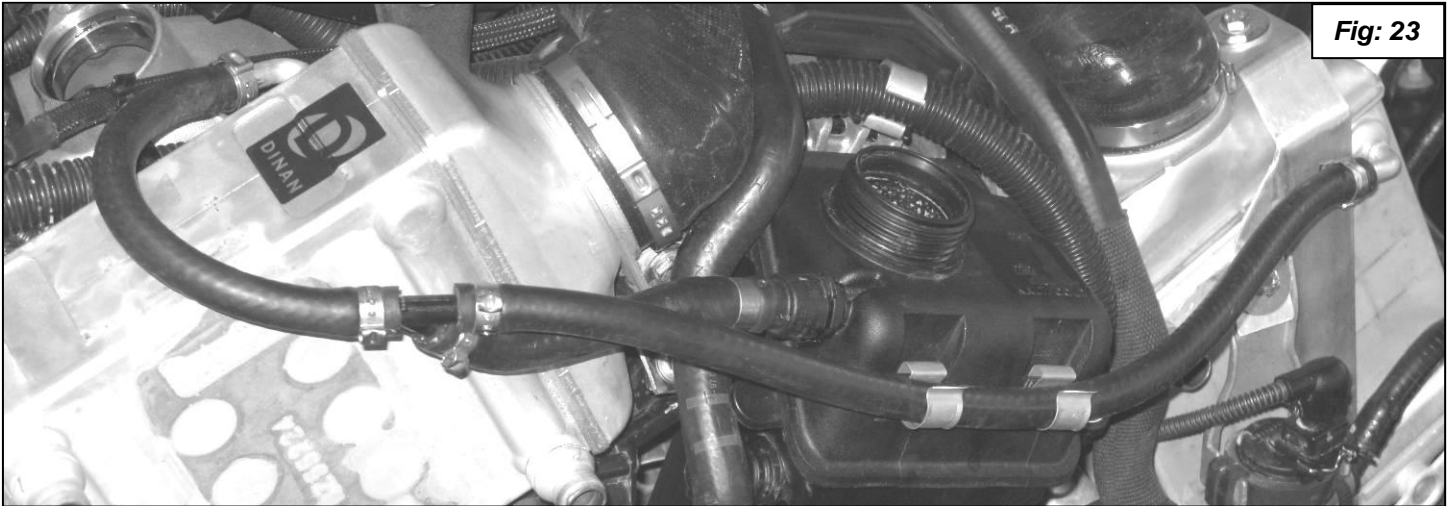

Fig: 23
20. Install the vent hose first with the Y connector into the stock hose that goes into the reservoir and the other two hoses going to the inter coolers. Clip the hose to the reservoir with the supplied clips. See figure 23.